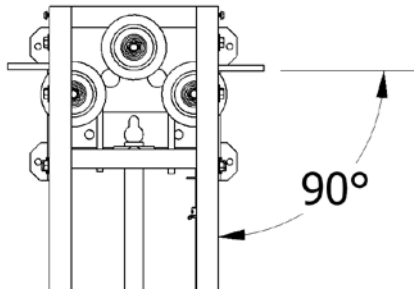

Figure 3
6. Run cable ends through side of machine around pulley down to the load block. Route cables around pulleys as shown in **figures 3,4 and 5** that best suits the application.
(Figure 3)